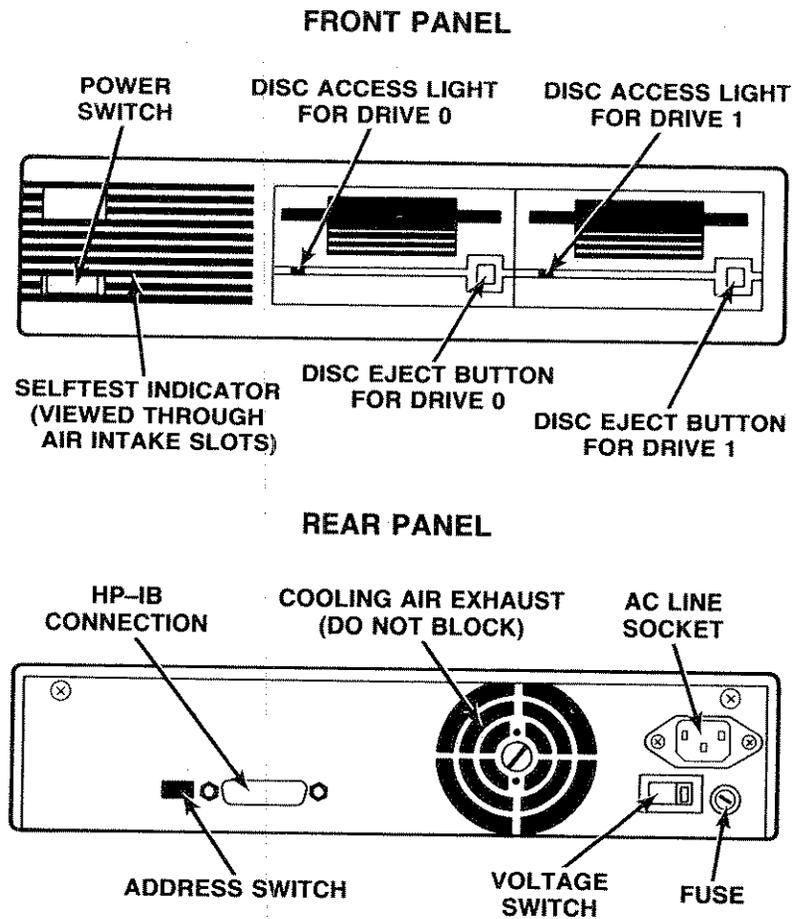

Figure 1: Front and Rear Panels of the HP 9121/9122
- Look at the parts of your disc drive illustrated in Figure 1.